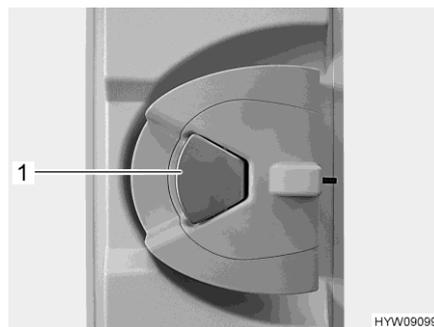

Fig. 34 Door lock (conversion door, inside)
- When the door lock is locked: Pull once at the door handle (Fig. 34,1). The door is unlocked.
- Pull on the door handle (Fig. 34,1). The door is open.
- Push the door handle (Fig. 34,1).